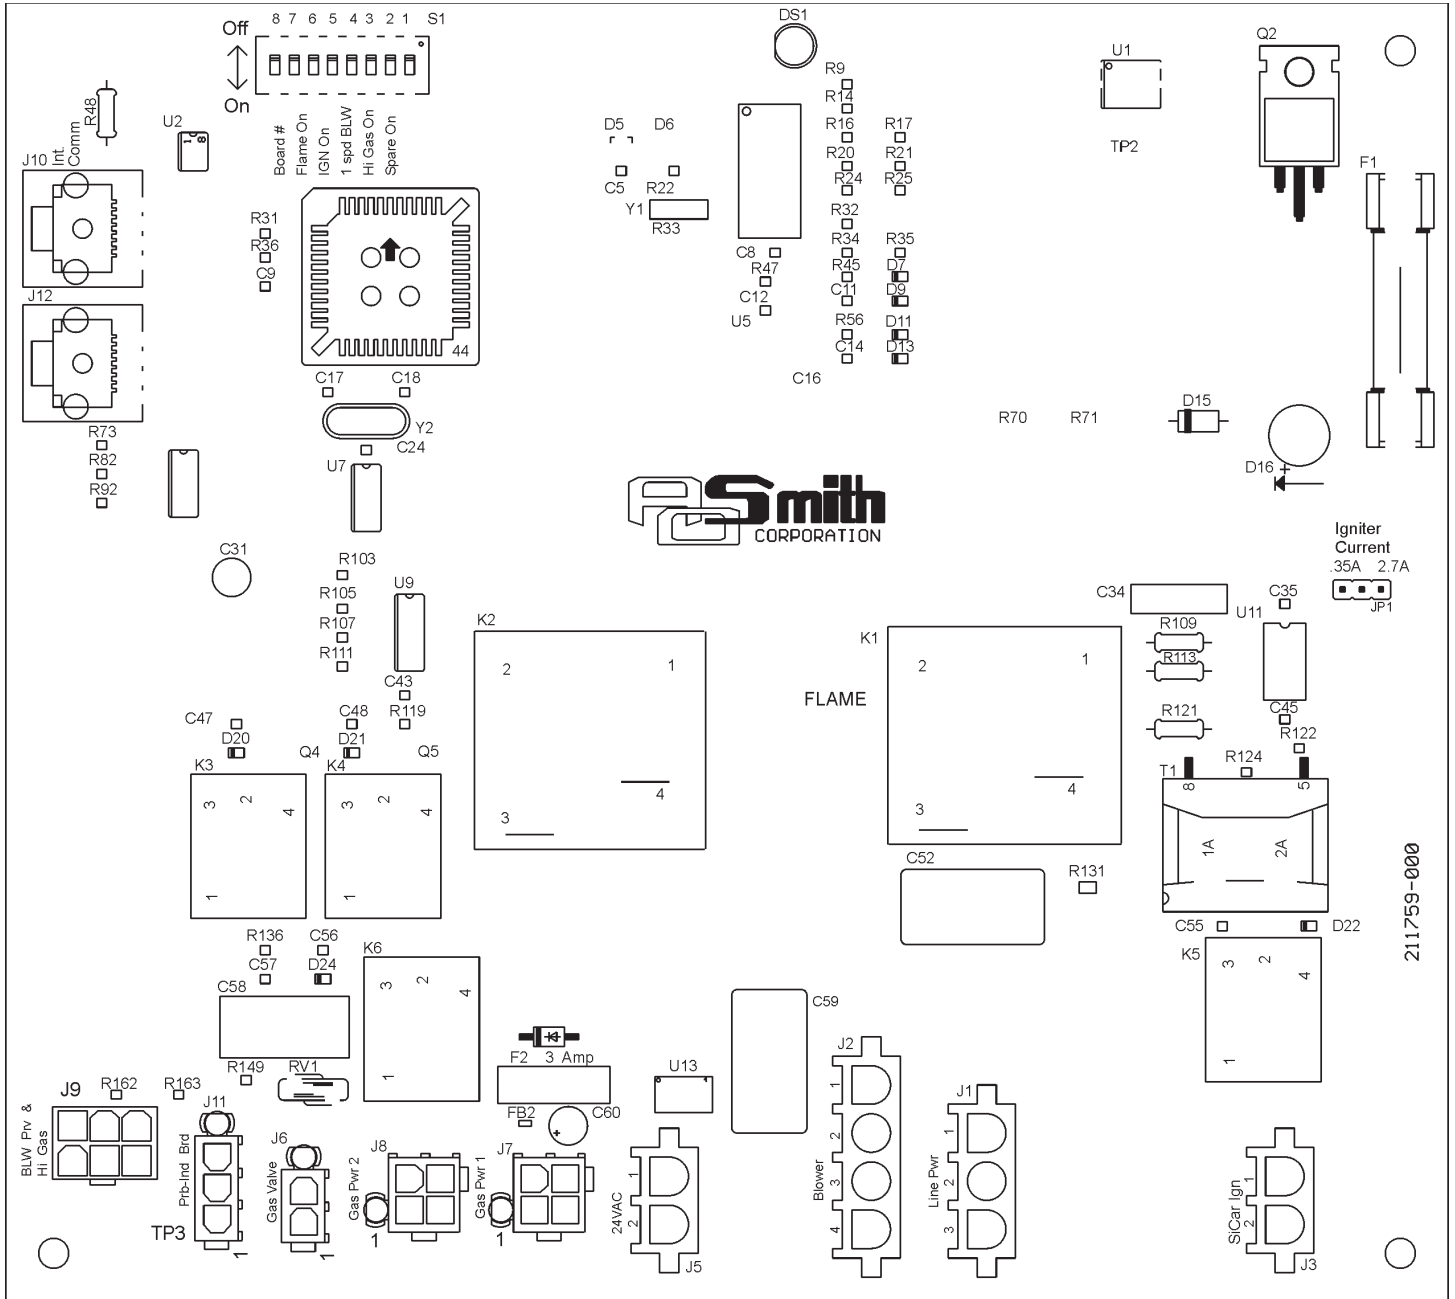

FIGURE 1B. FCB FLAME CONTROL BOARD
- Flame Control Board (FCB). See Figure 1B.